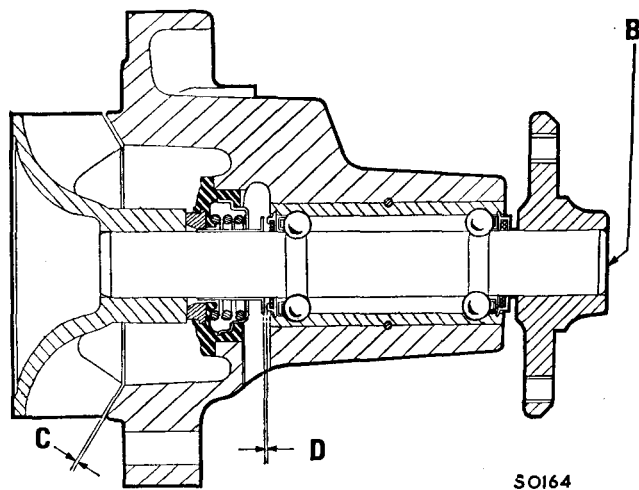

Fig. C.3
9. If the interference fit of the fan hub was impaired when the hub was withdrawn from the spindle a new nut must be fitted. The hub must be fitted with its face flush with the end of the spindle (B, Fig. C.3).
- (a) On pumps fitted with the early-type seal and thrower, check the bearing to thrower clearance before fitting the spindle (D, Fig. C.3).
- (b) On pumps fitted with a greaser plug, align the holes in the bearing and body (A, Fig. C.3).
12. Press the impeller onto the spindle, ensuring that the correct running clearance (C, Fig. C.3) is maintained between the impeller vanes and the pump body.